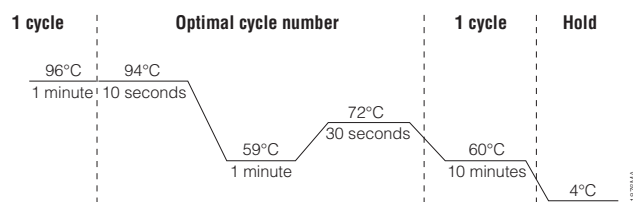

Figure 1. Thermal cycling protocol for the GeneAmp® PCR System 9700, Veriti® 96-Well Thermal Cycler and ProFlex® PCR System.
2. Select and run the recommended protocol, which is provided below and in Figure 1.